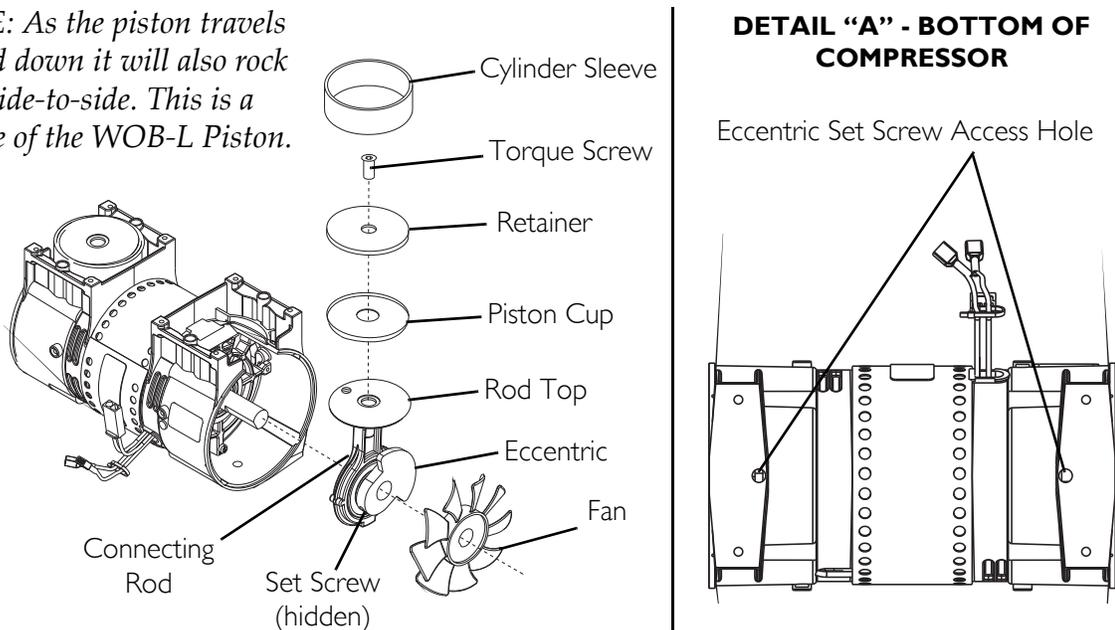

FIGURE 7.4 Removing Compressor and Compressor Heads - Rebuilding the Compressor - Fan - Connecting Rod and Eccentric Assembly - Piston Cup
NOTE: For this procedure, refer to FIGURE 7.4.
2. Insert the 1/8-inch Allen wrench into the access hole in the bottom of the compressor housing (Detail "A" of FIGURE 7.4).
NOTE: For this procedure, refer to FIGURE 7.4 on page 37.
4. Using the access hole, tighten set screw to 40 inch-lbs (Detail “A” of FIGURE 7.4).